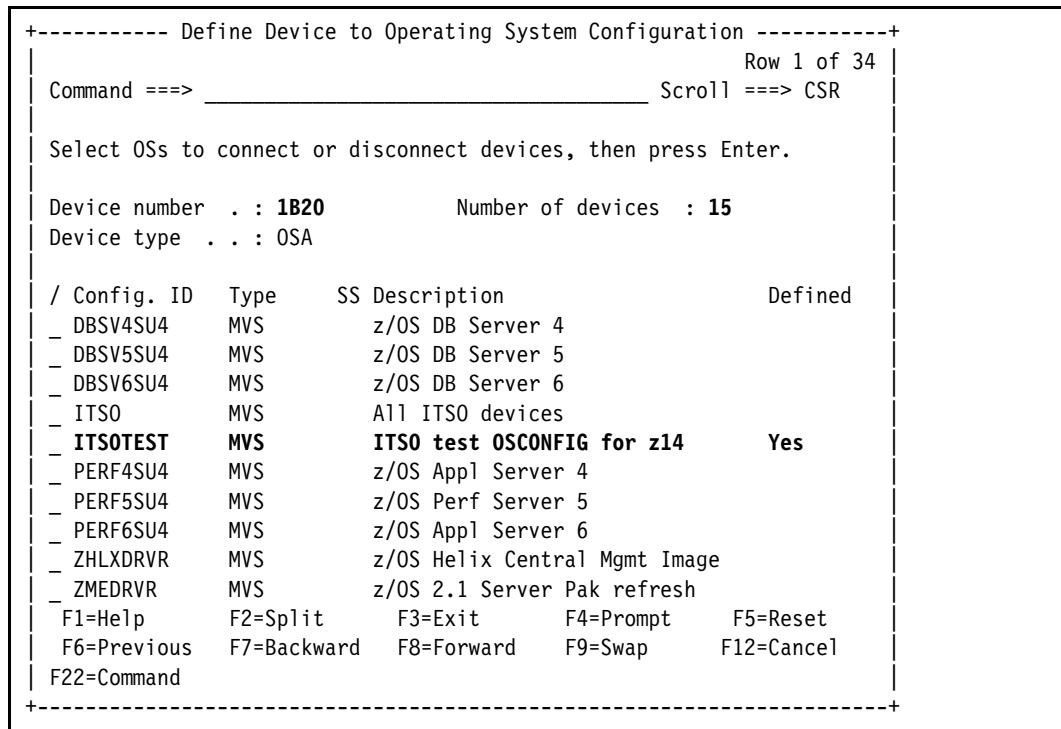

Figure 13-30 I/O Devices: Assign/Unassign Device to Esoteric, OSD
9. The Assign/Unassign Device to Esoteric panel is now displayed where you can specify which Esoteric (if any) you want the devices to be added to. We will only be adding the OSA/OSAD devices to the OS CONFIG ITSTEST and not to any esoterics in this example (Figure 13-30). Press **Enter**.